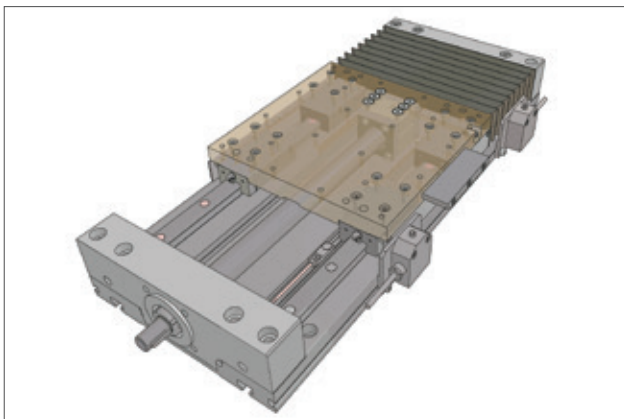

Figure 5.9 — AXLT with switches
- Optional inside placed inductive switches (Figure 5.9)